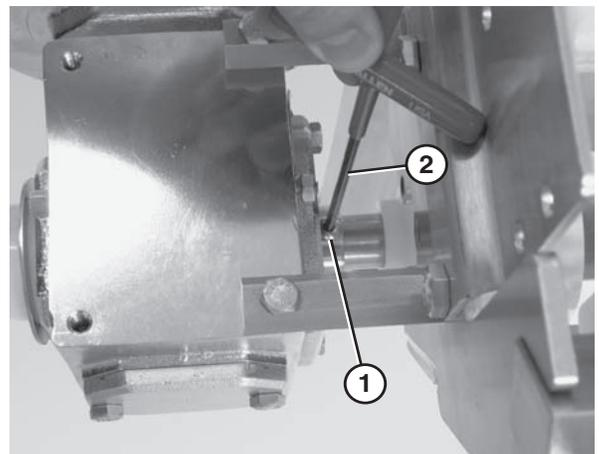

Figure 49
1. Loosen the fasteners (**Figure 49, item 1**) that connect the gearmotor to the drive spindle using a hex wrench (**Figure 49, item 2**).